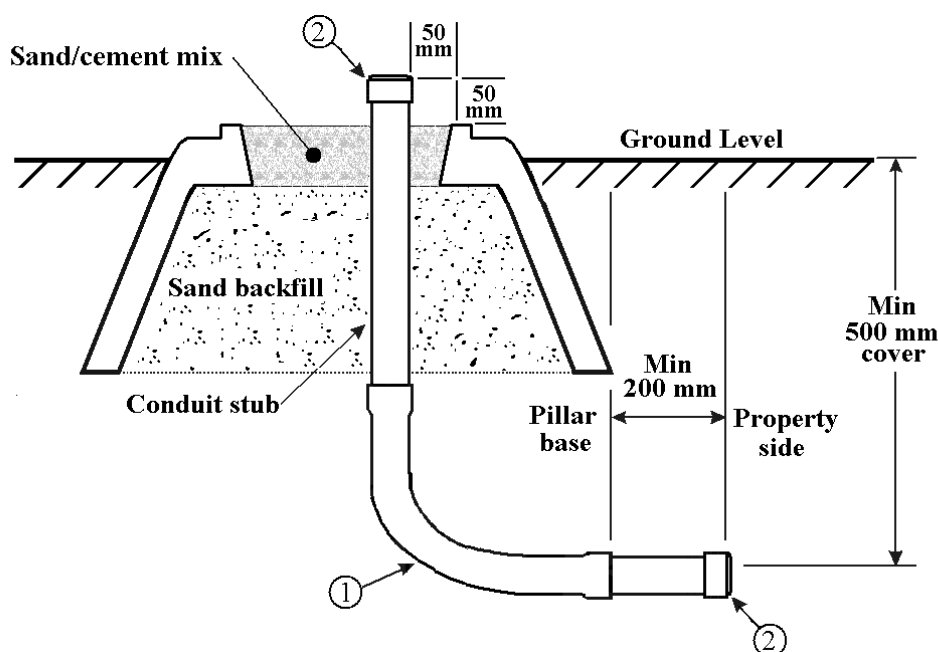

Figure 7 – Conduit Stub Details
- 5) Refer to Figure 7 for service conduit stub details (if applicable).
- 12) A conduit stub shall be installed in accordance with Figure 7 for each cable that has not been initially laid prior to the installation of the pillar noting the following: